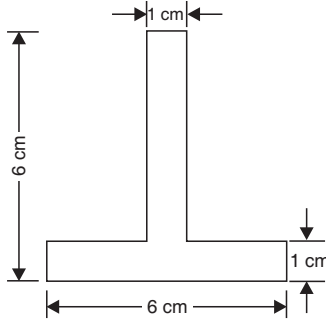

Fig. 4.45
3. Find the centroid of the lamina shown in Fig. 4.45. [Ans.  $\bar{y} = 1.864$  cm from the bottom]